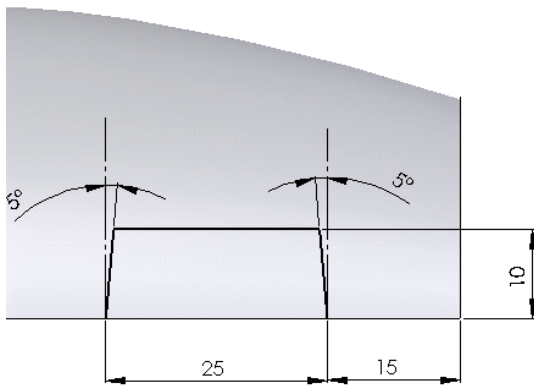

Figure 15-123 Sketch of the first section for creating the lofted surface of the handle
- c. Next, you will create the basic structure of the handle of the hair dryer cover by creating a lofted surface between two open sections, refer to Figures 15-123 through 15-125.
3. Create an open sketch as shown in Figure 15-123 and exit the sketching environment.